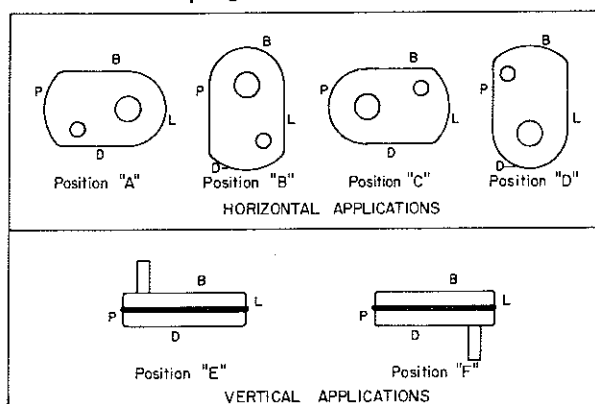

Fig. 1 — Mounting Positions
2. Determine the running positions of the reducer. (See Fig. 1) Note that the reducer is supplied with 7 plugs; 5 around the sides for horizontal installations and 1 on each face for vertical installations. These plugs must be arranged relative to the running positions as follows:
The running position of the reducer in a horizontal application is not limited to the four positions shown in Figure 1. However, if running position is over  $20^\circ$  either way from sketches, the oil level plug cannot be safely used to check the oil level, unless during the checking the torque arm is disconnected and the reducer is swung to within  $20^\circ$  of the positions shown in Figure 1. Because of the many possible positions of the reducer, it may be necessary or desirable to make special adaptations using the lubrication fitting holes furnished along with other standard pipe fittings, stand pipes and oil level gages as required.
† Refer to Fig. 1 on page 2 for mounting positions.
Note: If reducer position is to vary from those shown in Figure 1 either more or less oil may be required. Consult factory.